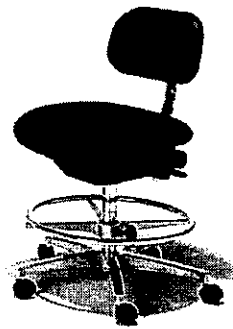

Figure 11: Example of Chair with ESD safe standards*
4.3 Chair with ESD-Safe standard (Electro Static Discharged) to be used in Class 100000 Clean Rooms (example in Figure 11) (20 sets).